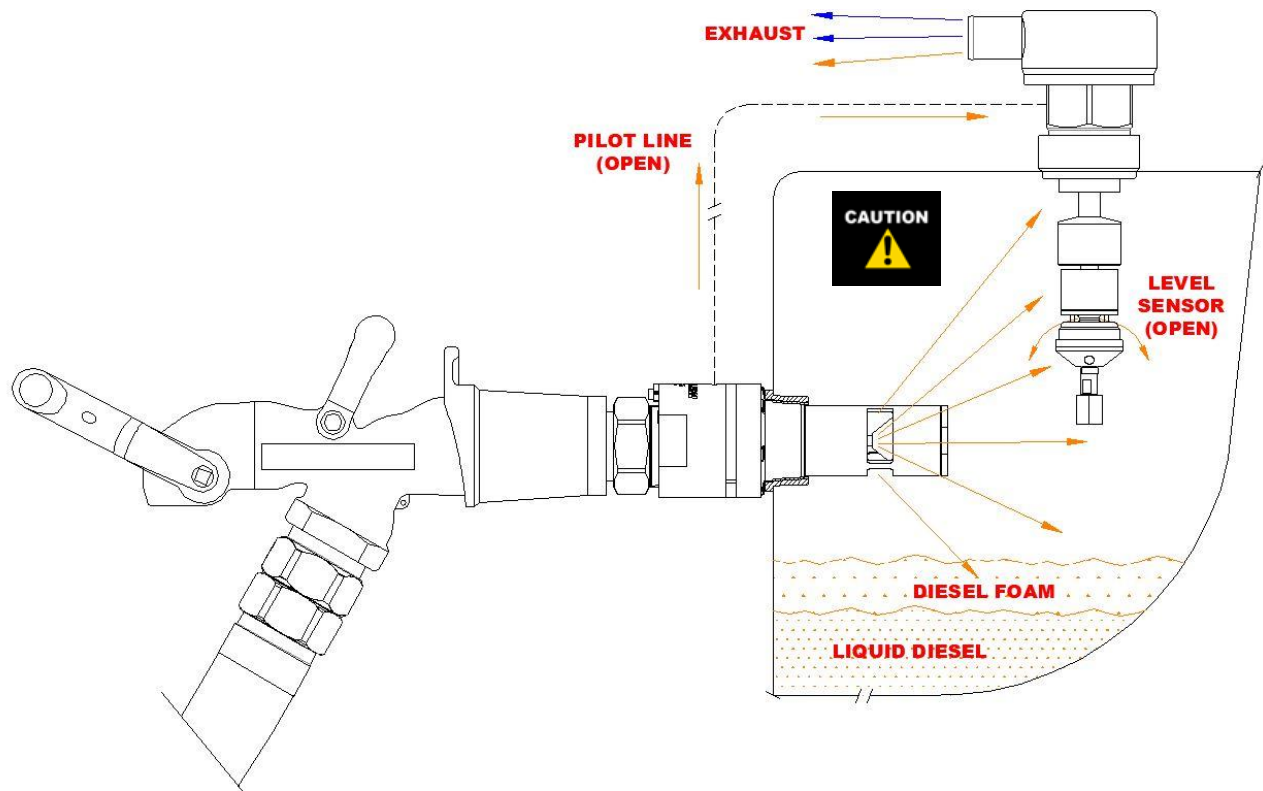

Figure 15 - Fuel Discharge Impacting Level Sensor (BVLS series shown)
- a. Figure 15 illustrates the Valve discharge impacting the Level Sensor or Tank Vent(s). This situation should be avoided as it may cause;